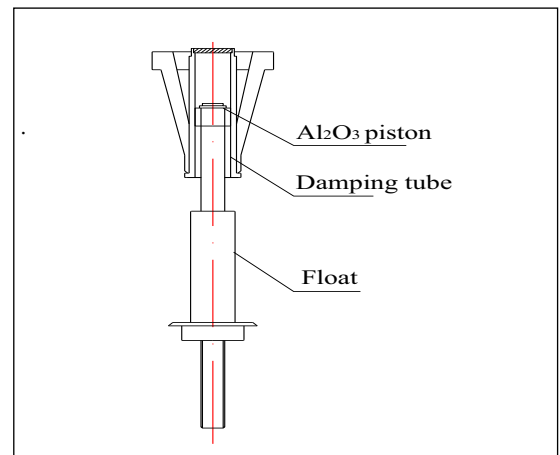

Fig.2-2
- 2.1 When the valve is opened suddenly in pipeline or pressure is unstable during metering gases, airflow will be pulsating. As a result, the float moves up and down along the conical tube ceaselessly. In the meantime, the system is out-of-control since the pointer swinging constantly leads to output signal instability. In this condition, a damping device must be installed inside the measuring tube (see fig. 2-2). The damping device becomes a self-centering damper of preventing block through special design and precision work of numerical control machine center. The damping device consists of aluminum oxide ceramic (purity is 99.99%) and is characterized by a long service life, resistant to corrosion, structure novelty, practicality better.